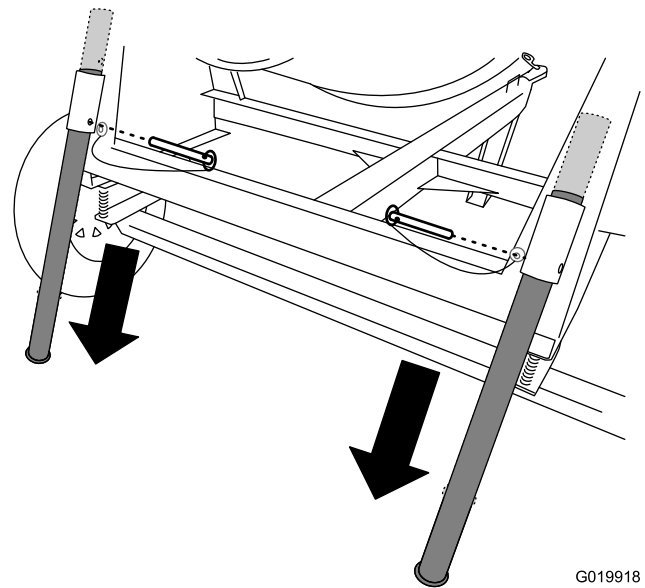

Figure 30
1. Pull the clevis pin out from the rear stabilizer leg and the bracket (Figure 30).
2. Slide the stabilizer leg down in the bracket and align the pin hole of the bracket with the upper hole in the stabilizer leg (Figure 30).
3. Push the clevis pin through the hole in the bracket and the stabilizer leg (Figure 30).